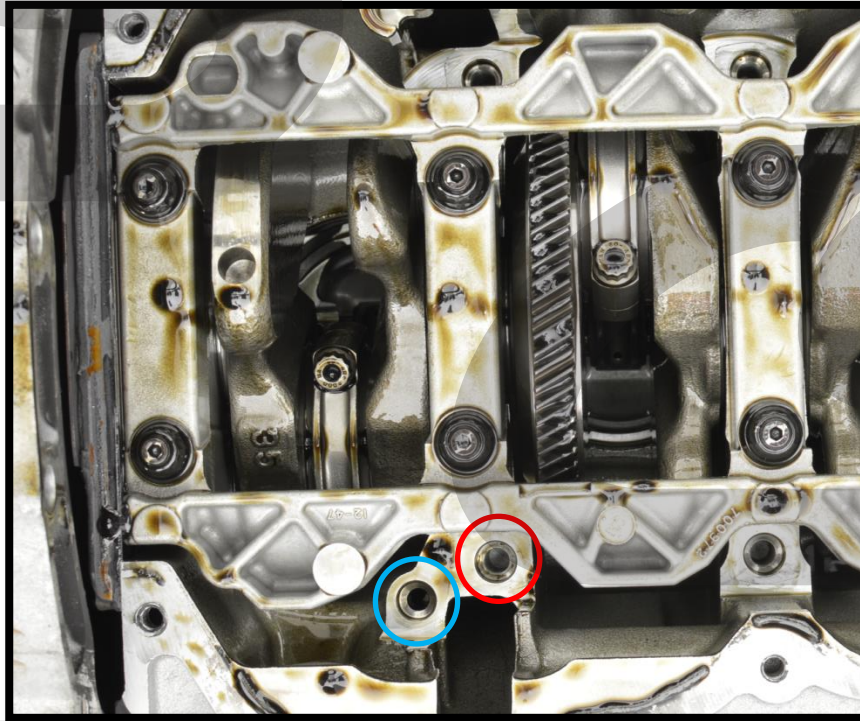

Figure 5a
- a) Using brake parts cleaner or other degreaser, clean the balance shaft mounting hole next to the oil supply hole. Correct hole shown circled in red in Figure 5a. Once clean, dry using compressed air or a rag. Ensure this hole is clean and dry so that the thread locker can work properly.
- c) Insert the CorkSport Oil Block Off Plug into the oil feed passage with the plate still attached. Correct location shown with blue circle in Figure 5a. Gently push until it fully seats in the passage (it will stay in the engine when fully seated).